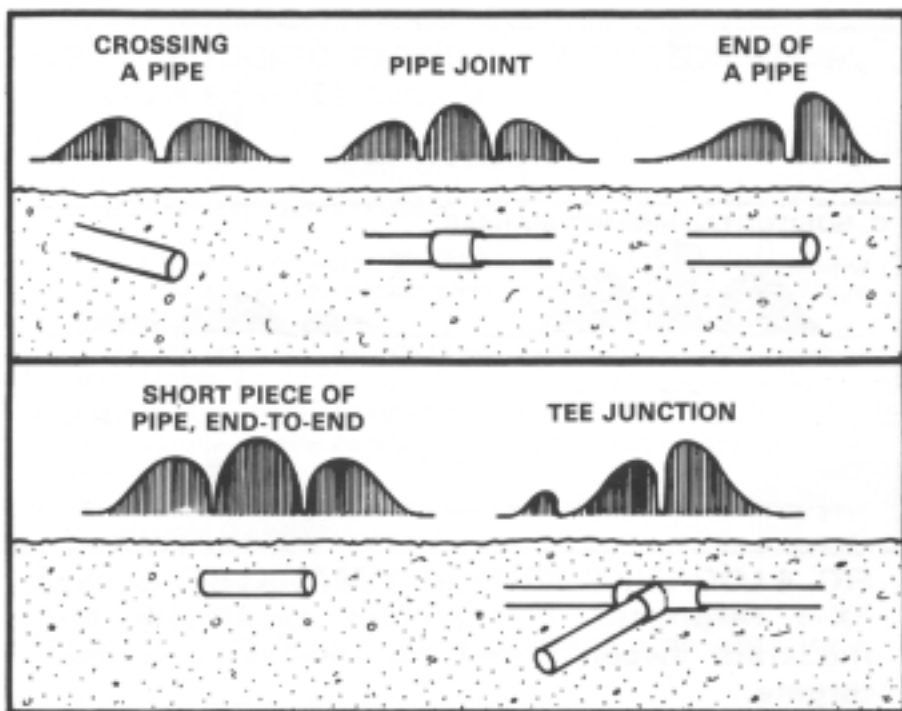
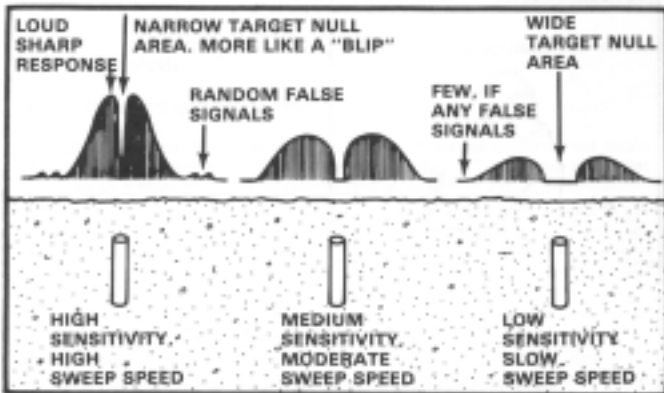

Figure 3. Tracing Pipes -Typical FX-3 responses at medium sensitivity and moderate sweep speed.
Figure 5. Reducing sensitivity and/or slowing down sweep speed.
6. Figures 3 and 4 show some typical responses for buried targets. Fig. 5 shows the effects of changing the sweep speed or sensitivity level.